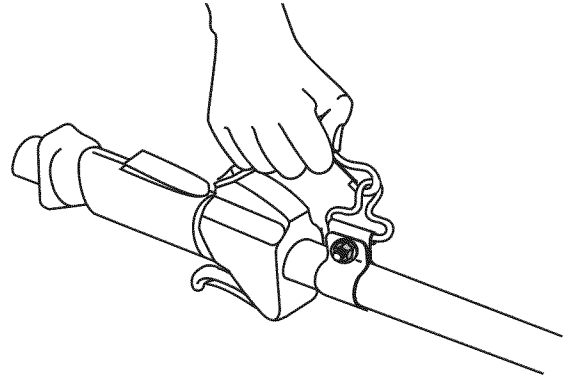

Fig. 6
3. Put the harness on over head and onto the left shoulder. Snap it on to the support fitting (Fig. 6).